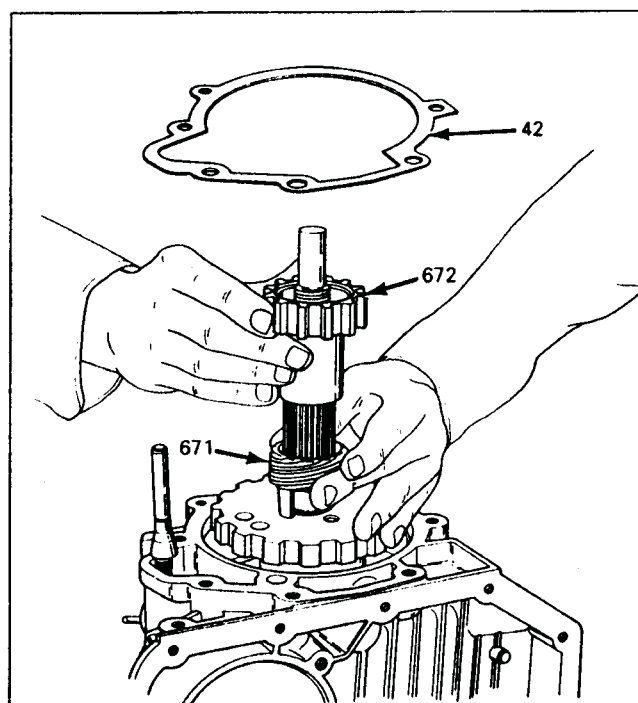

Figure 27
10. Remove the speed sensor rotor, speedo drive gear (If Used), and extension housing gasket (See Figure 27).